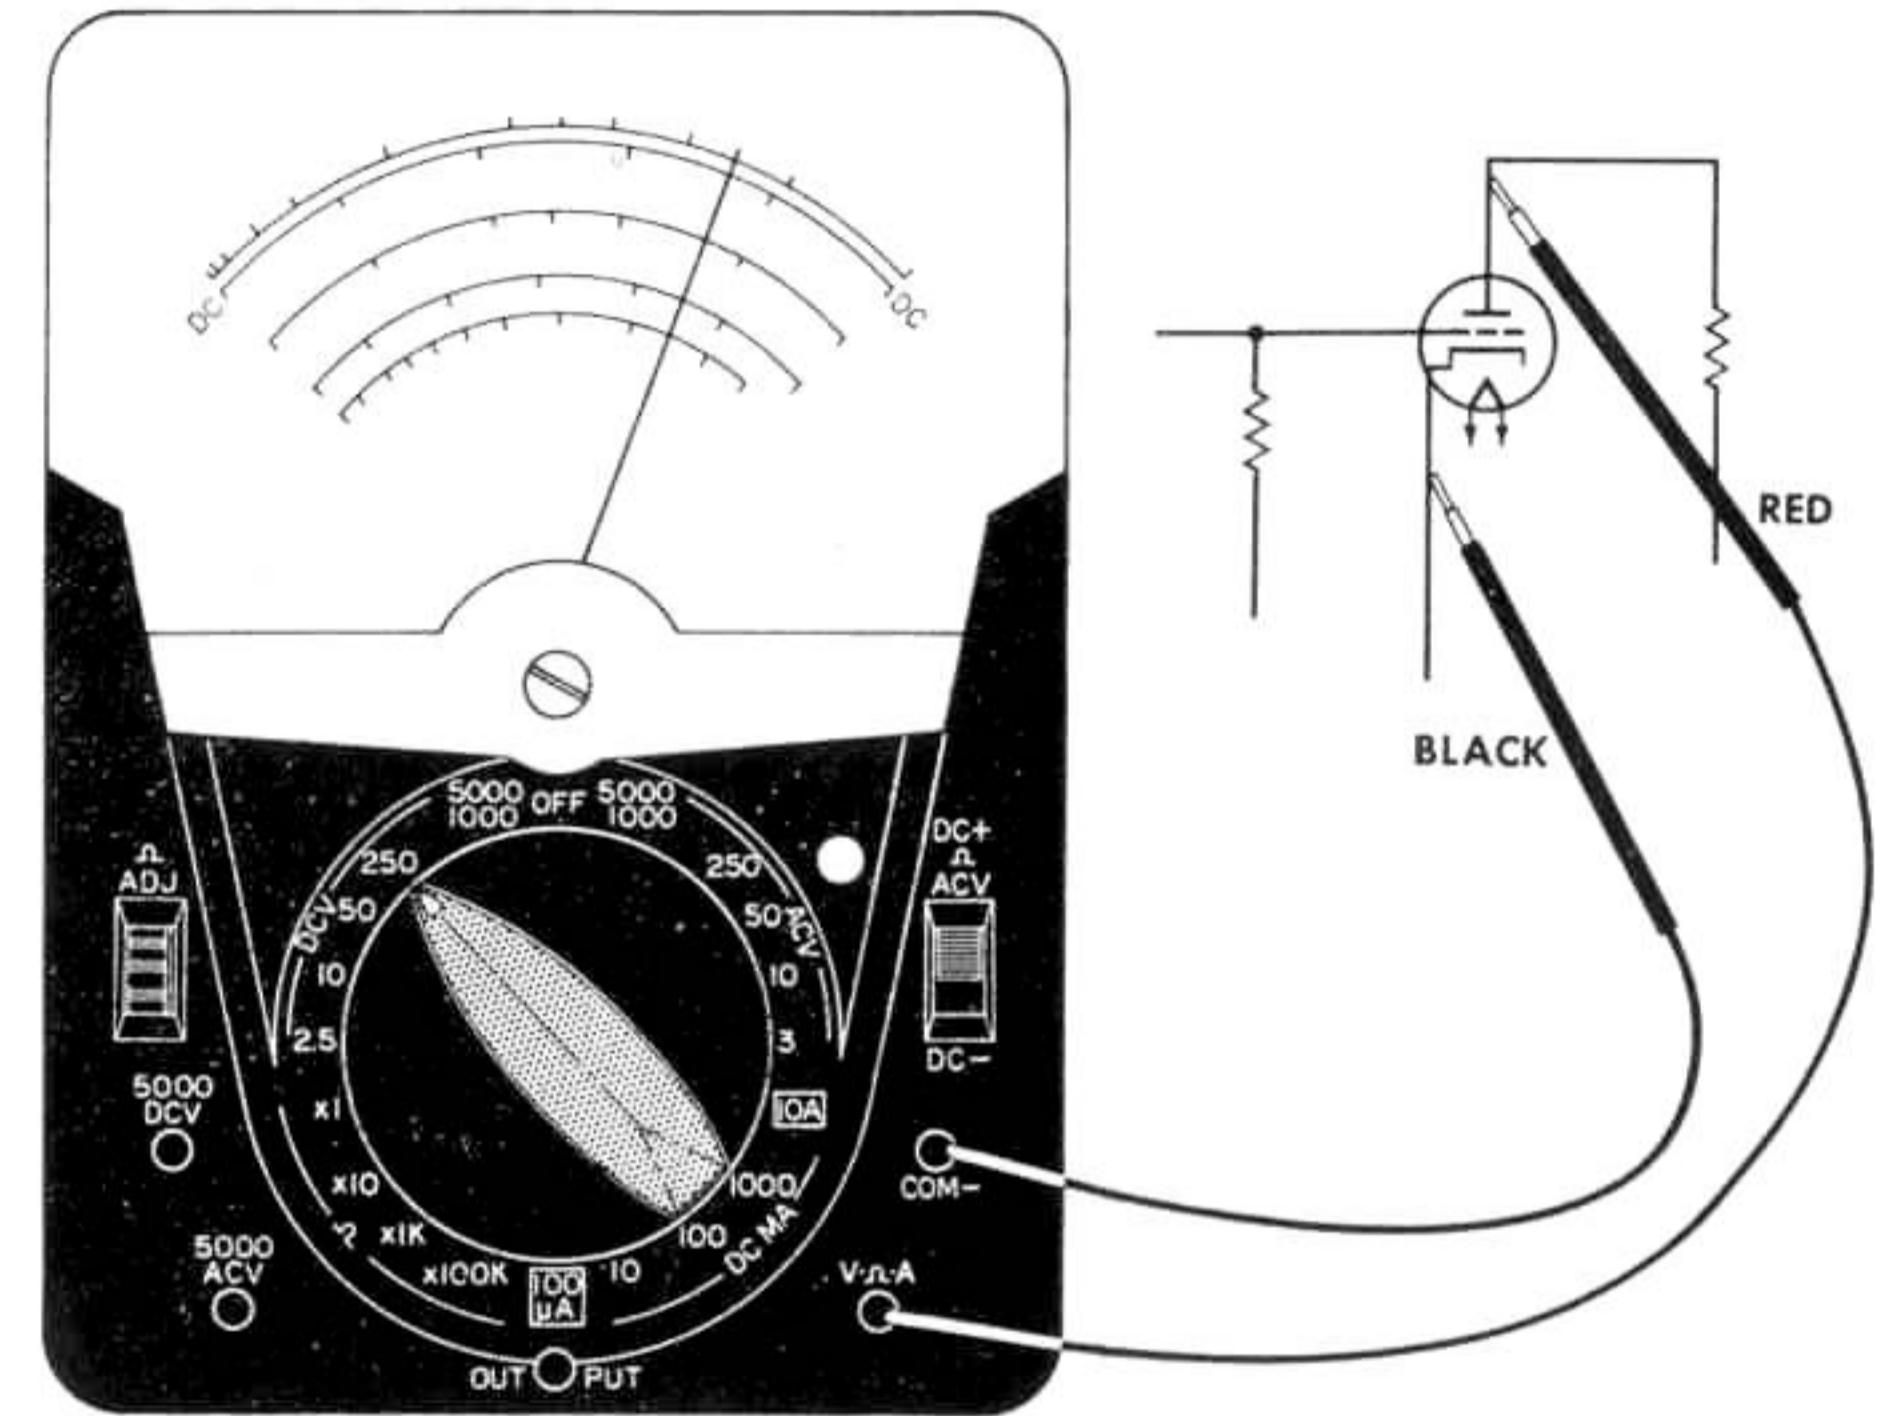

Fig. 1. Measuring DC Volts.
3. Connect the test probes across the voltage to be measured as shown in Fig. 1.
4. Connect the test probes across the voltage to be measured as shown in Fig. 1.